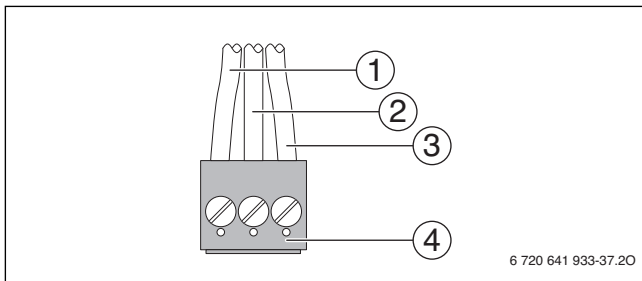

Fig. 54 Attach plug (external DHW tank loading pump or 3-way valve)
- ▶ Connect cable to **the red plug** according to Fig. 54.